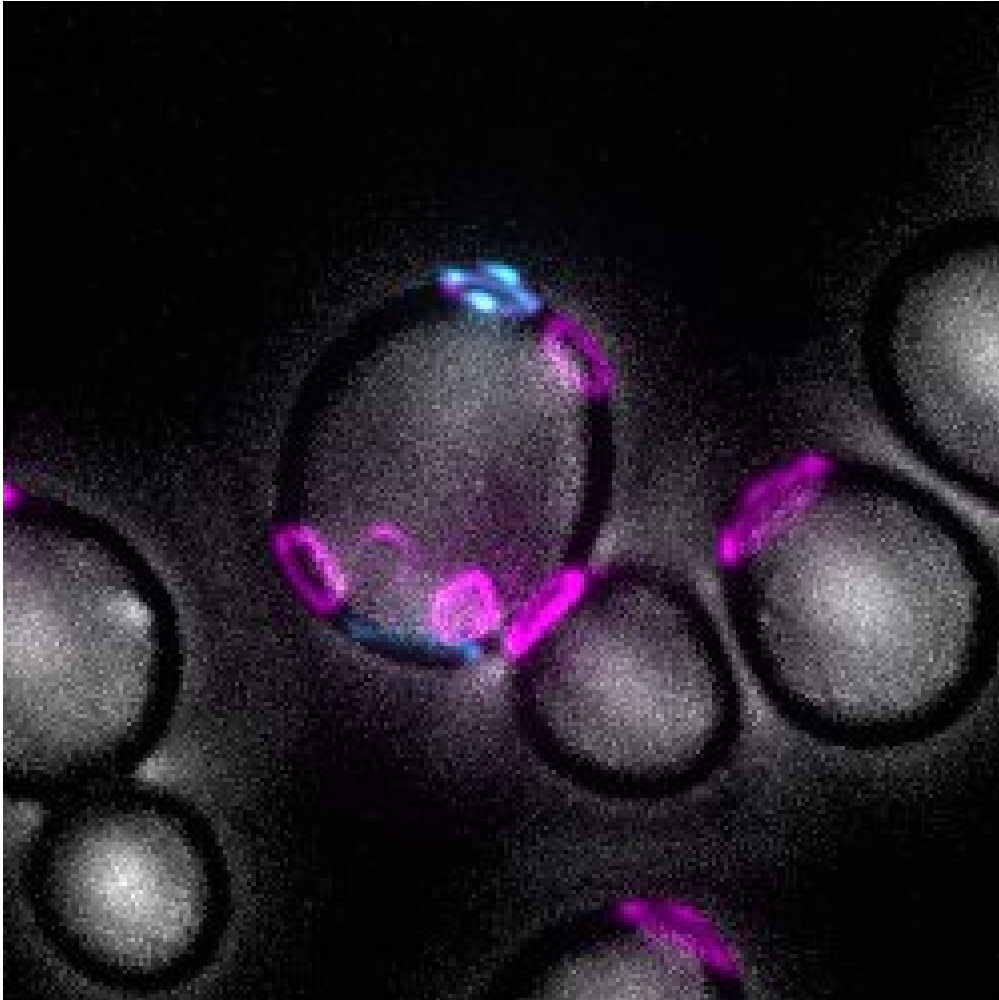

Figure 2: The septum of the bud in this picture was stained, but shouldn't be counted as an additional bud-scar.
- Buds don't count as bud-scars unless they have also budded (cf Figs. 2 & 3).